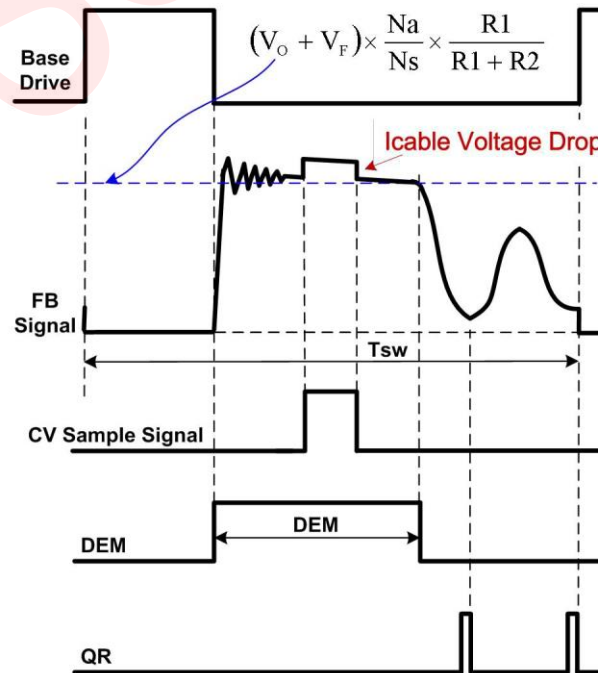

Fig.2
In Primary Side Regulation (PSR) control, the output voltage is sensed on the auxiliary winding during the transfer of transformer energy to the secondary. Fig.2 illustrates the timing waveform of CV sampling signal, demagnetization signal (DEM) and quasi-resonant (QR) trigger signal in U6215. When the CV sampling process is over, the internal sample/hold (S&H) circuit captures the error signal and amplifies it through the internal Error Amplifier (EA). The output of EA is sent to the Quasi Resonant PSR CV Modulator (QR-CVM) for CV regulation. A valley is selected to trigger new PWM cycle by the output of the QR-CVM block, which is determined by the load. The internal reference voltage for EA is trimmed to 2V with high accuracy.
During the CV sampling process, an internal variable current source is flowing to FB pin for Cable Drop Compensation (CDC). Thus, there is a step at FB pin in the transformer demagnetization process, as shown in Fig.2.
Fig.2 also illustrates the equation for “demagnetization plateau”, where V_o and V_F is the output voltage and diode forward voltage; R_1 and R_2 is the resistor divider connected from the auxiliary winding to FB Pin, N_s and N_a are secondary winding and auxiliary winding respectively.